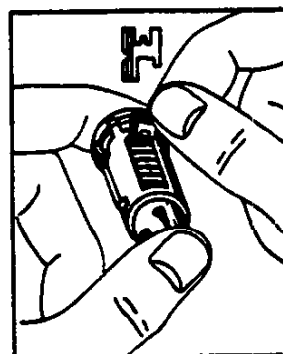

Fig. 9—Inserting Tumbler
1. Hold cylinder with head of cylinder away and starting at the head of the cylinder, insert the tumblers in their proper slots in the order called for by the code ribbed side toward you and long point down (fig. 9).